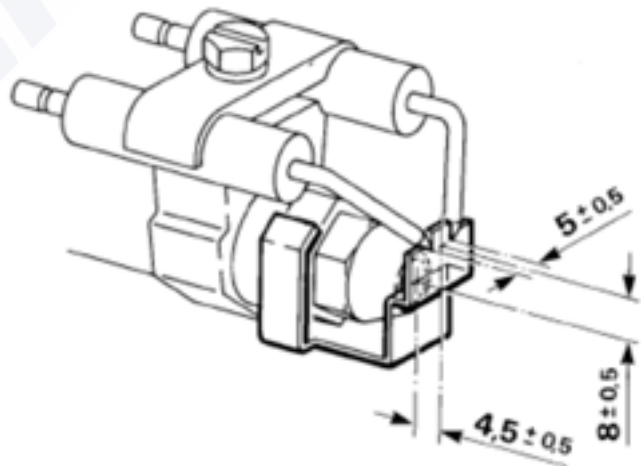

Fig. 608 Reassigning and checking electrode spacing
- Check electrode spacing in accordance with gauge as per Fig. 608 and state of ignition electrodes.
Readjust electrode spacing by bending and check with gauge in accordance with Fig. 608.